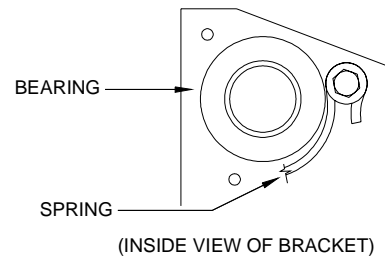

Figure 5.
4.7 Ensure that the door spring is in a relaxed position. Pass a 5/16" bolt with a flat washer through the loop in the end of the door spring and through the nearest of three holes in the door bracket. Secure with a 5/16" whiz nut. Repeat on the other end if the door comes with two springs. **ENSURE THAT THE SPRING FITS AROUND THE BEARING IN THE BRACKET BEFORE FINAL TIGHTENING.** See Figure 5.